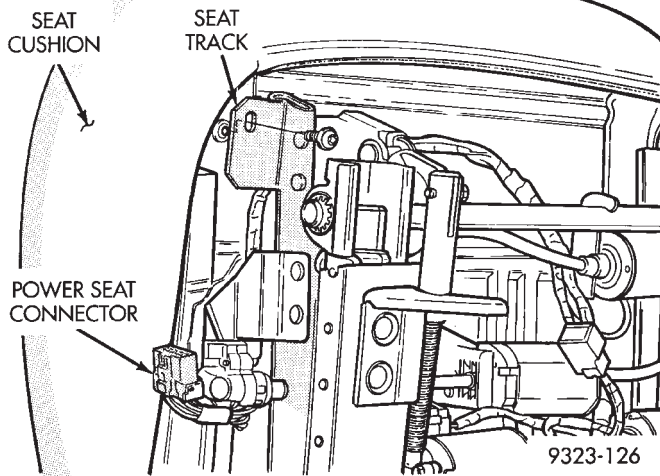

Fig. 3 Front Seat Track—Typical
- (5) Remove bolts holding seat back to cushion.
- (6) Separate seat back from cushion.
- (7) Remove bolts holding seat track to cushion frame (Fig. 3).
- (8) Separate seat track from seat cushion.